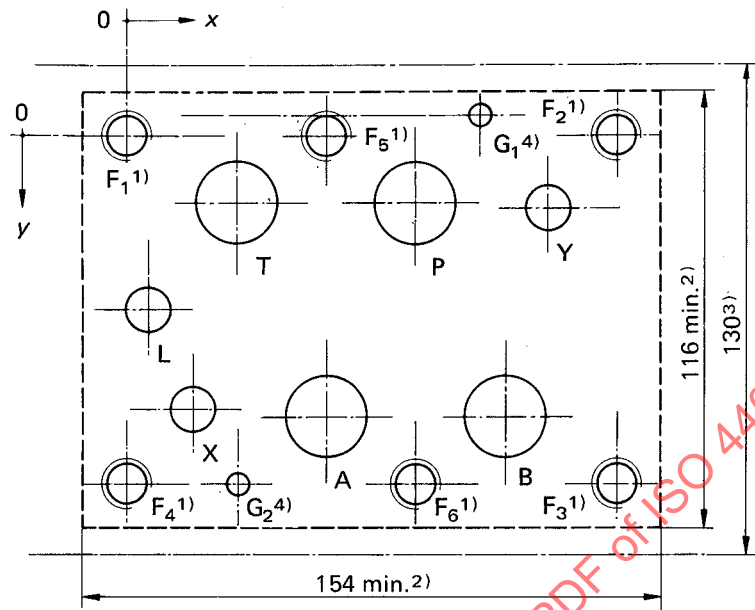

Figure 5 — Mounting surface for four-port hydraulic directional control valves with 23,4 mm maximum port diameter
**6.5** Mounting surface with 23,4 mm maximum port diameter (ISO 4401-AE-08-4-A)\*, see figure 5, table 5.